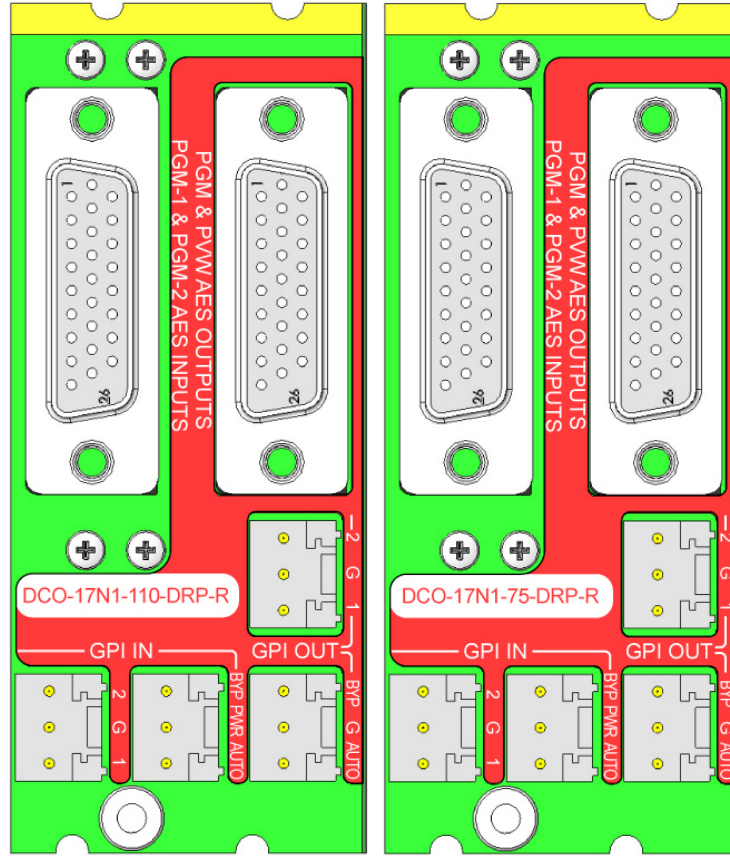

Figure 2.1 DCO-17n1 Rear Panels
- DCO-17n1-75-DRP-R or DCO-17n1-110-DRP-R Rear Panel (see figure 2.1)